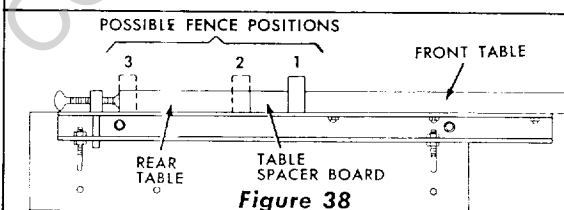

Figure 38
6. There are three positions in which the fence can be located. See Figure 38.